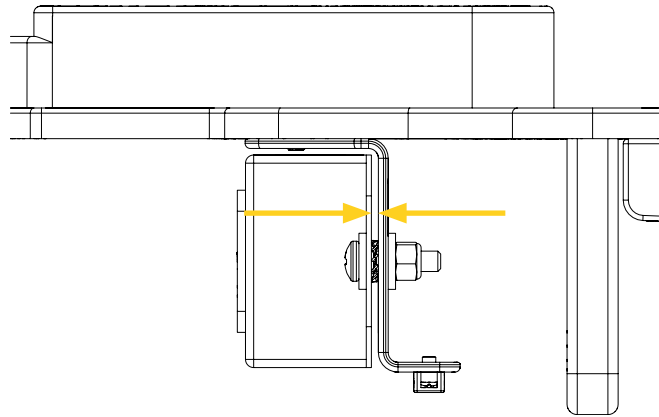

Figure 9: Securing the power bar with the new hardware (1 of 2 screws illustrated)
6. Tighten the screws until the teeth of the lock washer bite into both surfaces using the two (2) 1/4 in.-20 hex nuts and a Phillips-head screwdriver #2, fully compressing the lock washer to ensure a complete path for current flow between the power bar and support bracket (Figure 9).